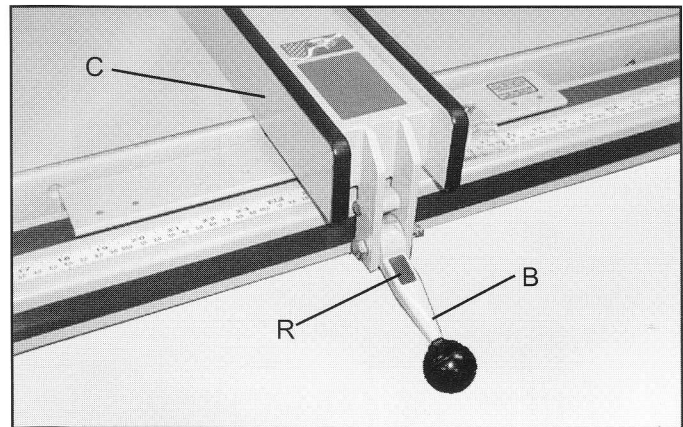
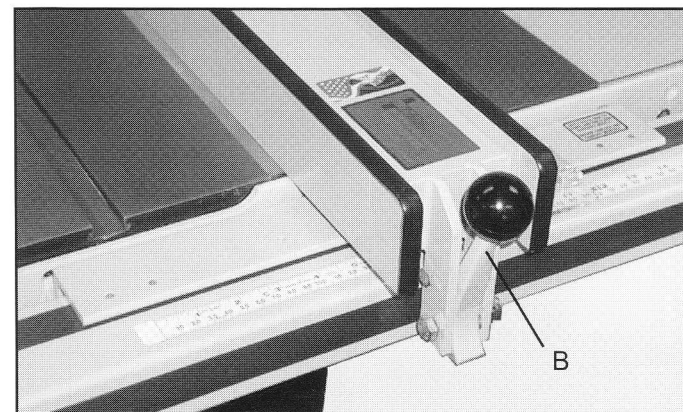

Fig. 28
Fig. 30
5. When the fence locking handle (B) Fig. 28, is pushed to the down position, the fence assembly (C) should be completely clamped to the guide tube. If the fence assembly (C) is not completely clamped to the guide tube when the handle is pushed down, as shown, lift up handle (B) and raise fence off the guide tube as shown in Fig. 27. Slightly tighten the two adjusting (J) and (K) (if the fence is too loose) or loosen (if the fence is too tight), using a 3/16" Allen wrench (N), not supplied. **NOTE: Screws (J) and (K) should be tightened or loosened an equal amount.** Replace the fence back on the guide tube and recheck to see if the fence assembly is completely tightened to the guide tube with the locking handle (B) pushed down. Adjust further if necessary.
7. To move the fence along the guide tube, simply lift up the locking handle (B) Fig. 30, as shown, slide the fence to the desired position on the guide, and push down locking handle (B) Fig. 28 as shown, to lock in position. **NOTE: A magnet (R) Fig. 28, is provided to hold the handle in the up position when moving the fence.**